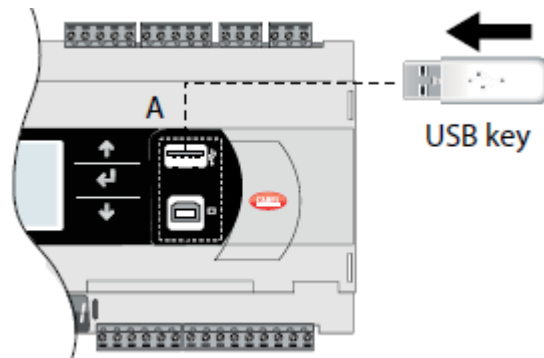
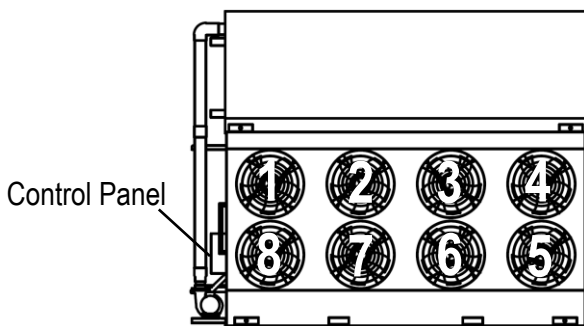

Figure 68. PLC Backup and Restore via USB
Figure 71. Right Hand 18' Long Unit Fan Addresses
2. Ensure unit is locked out and tagged out. Open the control panel enclosure door and insert a USB mass storage device into the PLC as shown in **Figure 68**.
3. Open the control panel and turn off all the breakers except for the fan that's address is going to be verified. Refer to **Figure 68** through **Figure 71** to determine fan address assignment.